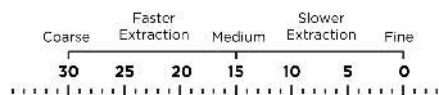
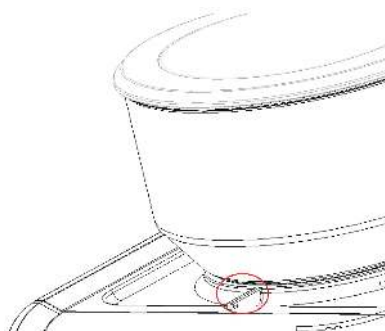

Fig. 3:
Fig. 4:
2. The Bean Box has markings indicating coffee coarseness (see Fig. 3). To adjust the grind setting, ensure that your desired setting on the Bean Box is aligned with the mark on the top cover (as shown in Fig. 4).